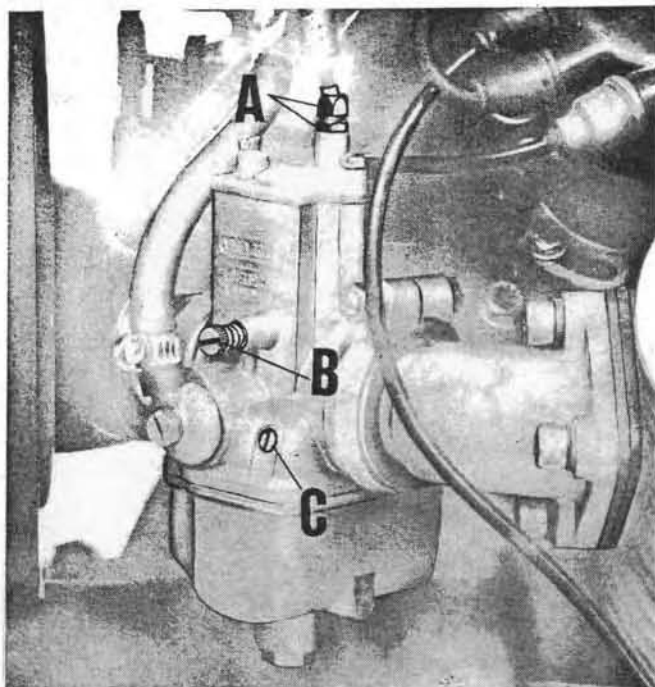

Fig. 71
#### STANDARD CARBURETOR SETTING (Fig. 71)
2. Check synchronization of both gas valves with the filter box and the inlet sleeve disconnected. Turn the throttle grip keeping at the same time your fingers on the carburetor slides to feel if both valves open by the same amount and simultaneously. Should one valve open before the other, this can be corrected by setting screw A Fig. 71 in the position where by turning the throttle both valves open simultaneously.
3. Adjust the idling speed by acting on screw C in Fig. 71. Screwing this in reduces the fuel flow and viceversa increases it. To adjust, tighten and then turn screw out 1 1/2 turns for the L/H carburetor and 1 3/4 to 2 turns for the R/H carburetor. With the engine running at about 1000-1200 r.p.m., disconnect one of the plug leads and turn screw C (Fig. 71) of the opposite carburetor in or out to the position which will give the best idling speed i.e. when the revs are slightly increasing.
4. Disconnect the R/H cylinder plug lead and after starting the engine, ensure that the engine stops after firing 4 or 5 times. If it dies out sooner or later, it is necessary to adjust idling screw B Fig. 71 setting it at the point where the engine will stop after it has fired 4 or 5 times.
The same operation should be repeated on the right hand cylinder, with the left hand plug lead disconnected. If the R/H cylinder is normal, the engine should stop after firing 4-5 times. If not, screw B Fig. 71 should be adjusted to the position where it does so. Finally, the left cylinder plug lead should be re-connected.